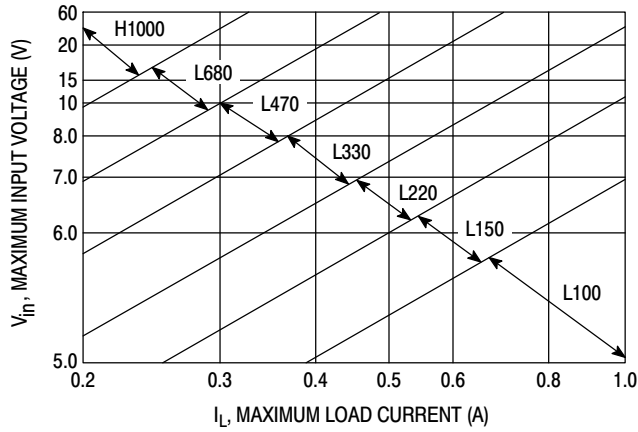

Figure 17. LM2575-3.3
4. Inductor Selection (L1) A. According to the required working conditions, select the correct inductor value using the selection guide from Figures 17 to 21. B. From the appropriate inductor selection guide, identify the inductance region intersected by the Maximum Input Voltage line and the Maximum Load Current line. Each region is identified by an inductance value and an inductor code. C. Select an appropriate inductor from the several different manufacturers part numbers listed in Table 1 or Table 2. When using Table 2 for selecting the right inductor the designer must realize that the inductor current rating must be higher than the maximum peak current flowing through the inductor. This maximum peak current can be calculated as follows: $I_{p(max)} = I_{Load(max)} + \frac{(V_{in} - V_{out}) t_{on}}{2L}$ where t_{on} is the "on" time of the power switch and $t_{on} = \frac{V_{out}}{V_{in}} \times \frac{1}{f_{osc}}$ For additional information about the inductor, see the inductor section in the "External Components" section of this data sheet.	4. Inductor Selection (L1) A. Use the inductor selection guide shown in Figures 17 to 21. B. From the selection guide, the inductance area intersected by the 20 V line and 0.8 A line is L330. C. Inductor value required is 330 μ H. From the Table 1 or Table 2, choose an inductor from any of the listed manufacturers.
To simplify the inductor selection process, an inductor selection guide for the LM2575 regulator was added to this data sheet (Figures 17 through 21). This guide assumes that the regulator is operating in the continuous mode, and selects an inductor that will allow a peak-to-peak inductor ripple current to be a certain percentage of the maximum design load current. This percentage is allowed to change as different design load currents are selected. For light loads (less than approximately 200 mA) it may be desirable to operate the regulator in the discontinuous mode, because the inductor value and size can be kept relatively low. Consequently, the percentage of inductor peak-to-peak current increases. This discontinuous mode of operation is perfectly acceptable for this type of switching converter. Any buck regulator will be forced to enter discontinuous mode if the load current is light enough.